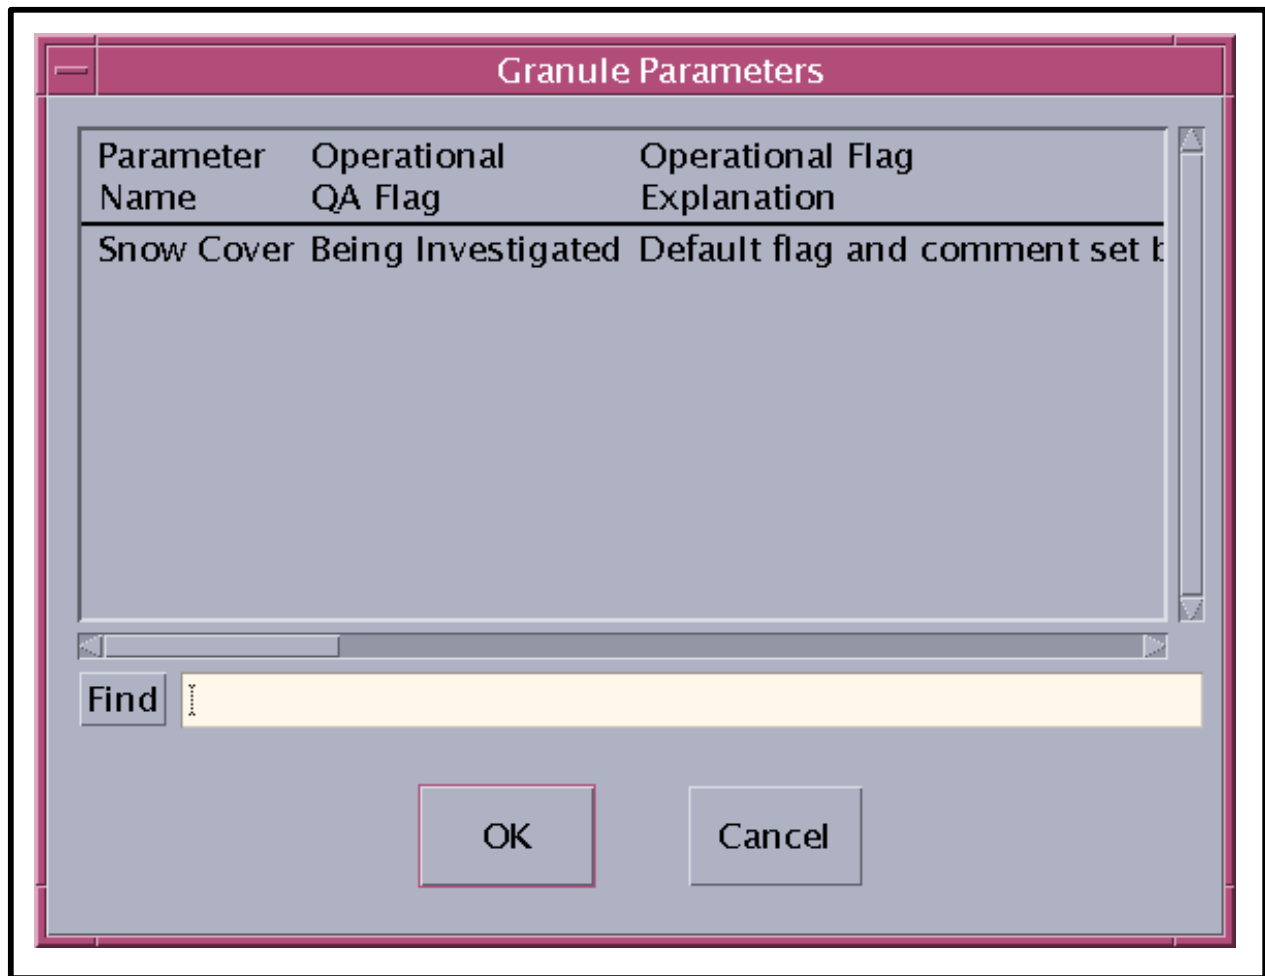

Figure 84. QA Monitor Granule Parameters Window
- The **Granule Parameters** window (Figure 84) is displayed.